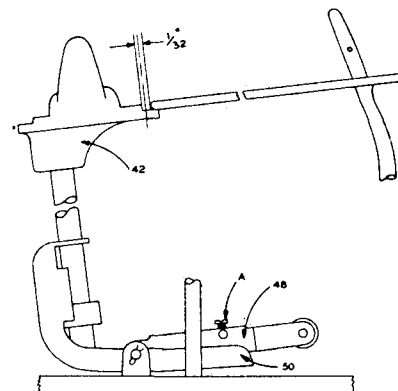

Fig. 6
2. Insert a short screwdriver through the motor-board opening into the screw slot as shown at "A" in Fig. 6. Clockwise rotation of the screw will increase the distance between the Record Spindle and the Record Selector Post; counter-clockwise rotation will decrease it.